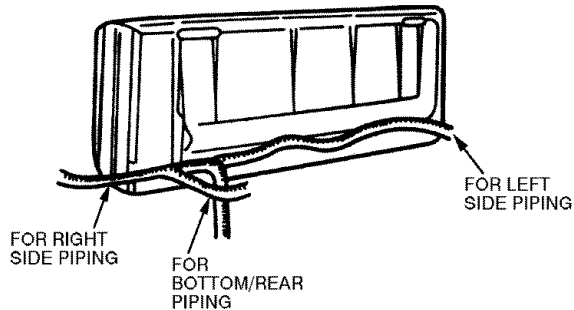

Fig. 4 — Refrigerant Piping
- Refrigerant piping can enter the unit through the prepunched holes. Refrigerant piping can run up or down along the wall, to the right or left along the wall, straight through the wall, or into the wall (Fig. 4).
1. Decide how the refrigerant will be piped. If necessary, knock out the appropriate pre-punched holes (Fig. 4) on the unit for piping and electrical connections.